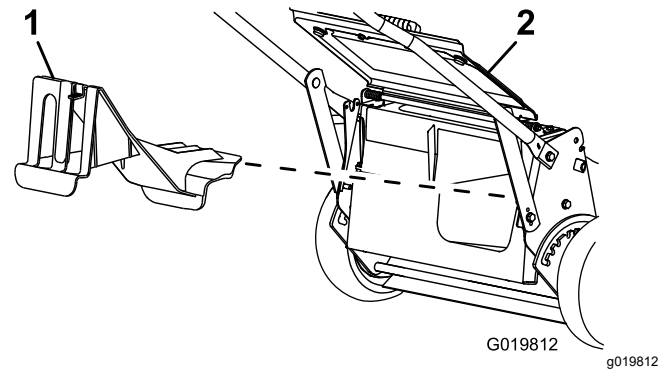

Figure 18
- If the rear-discharge plug is not installed, grip it by the handle, raise the rear deflector, and insert it into the rear-discharge chute until the latch locks into place; refer to Figure 18.